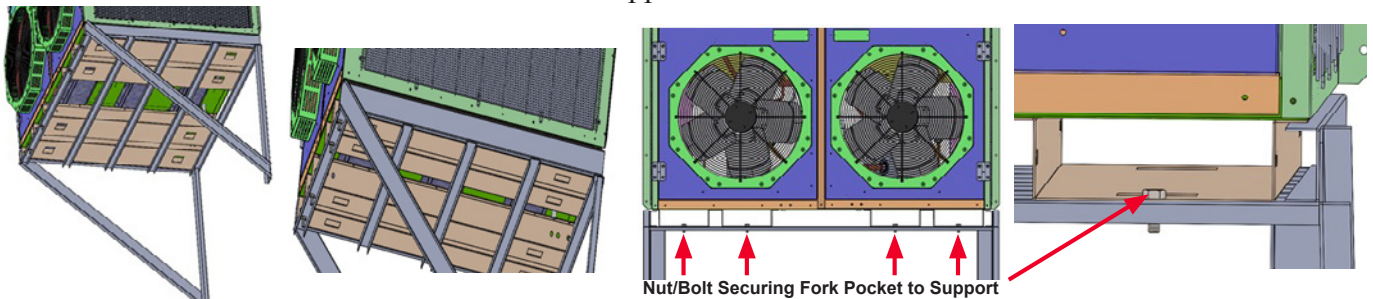

Figure 6a Unit Compression Support Examples
2. Mount the thermostat on the wall of the shelter. The thermostat should be located so that the supply air from the unit does NOT blow directly on to the thermostat. Connect the thermostat to the terminal block in the air conditioner as shown in Figure 6a.